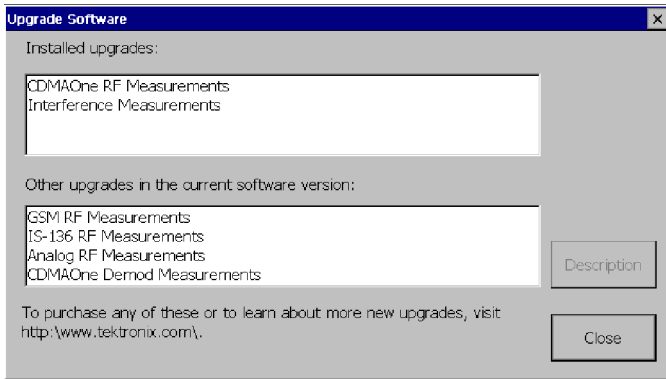

Figure D-2: This dialog displays information about software upgrades
- a. To see which upgrades are installed or which upgrades are available, select **Tell me more about upgrades**. This displays the dialog shown in Figure D-2.